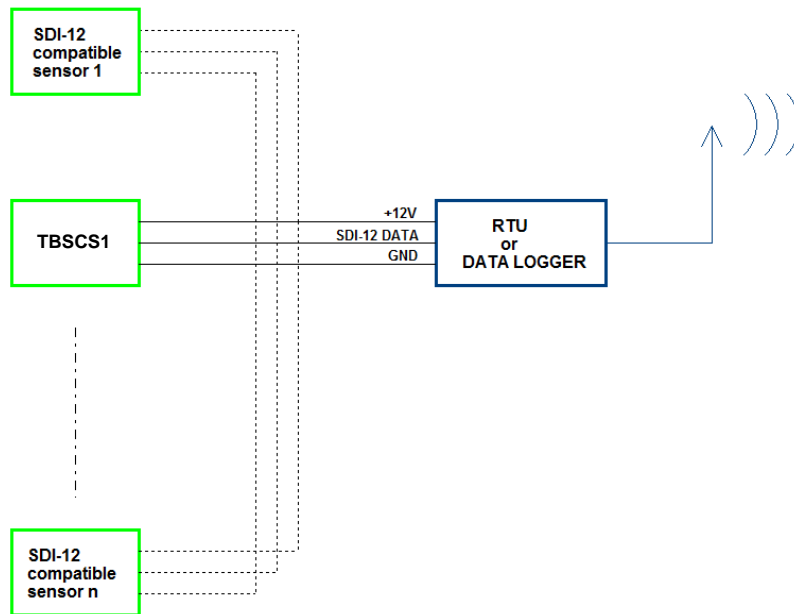

Figure 5 – TBSCS1 and other sensors with SDI-12 interface connected to Remote Telemetry Unit or Data Recorder
- Figure 5 – TBSCS1 and other sensors with SDI-12 interface connected to Remote Telemetry Unit or Data Recorder 9